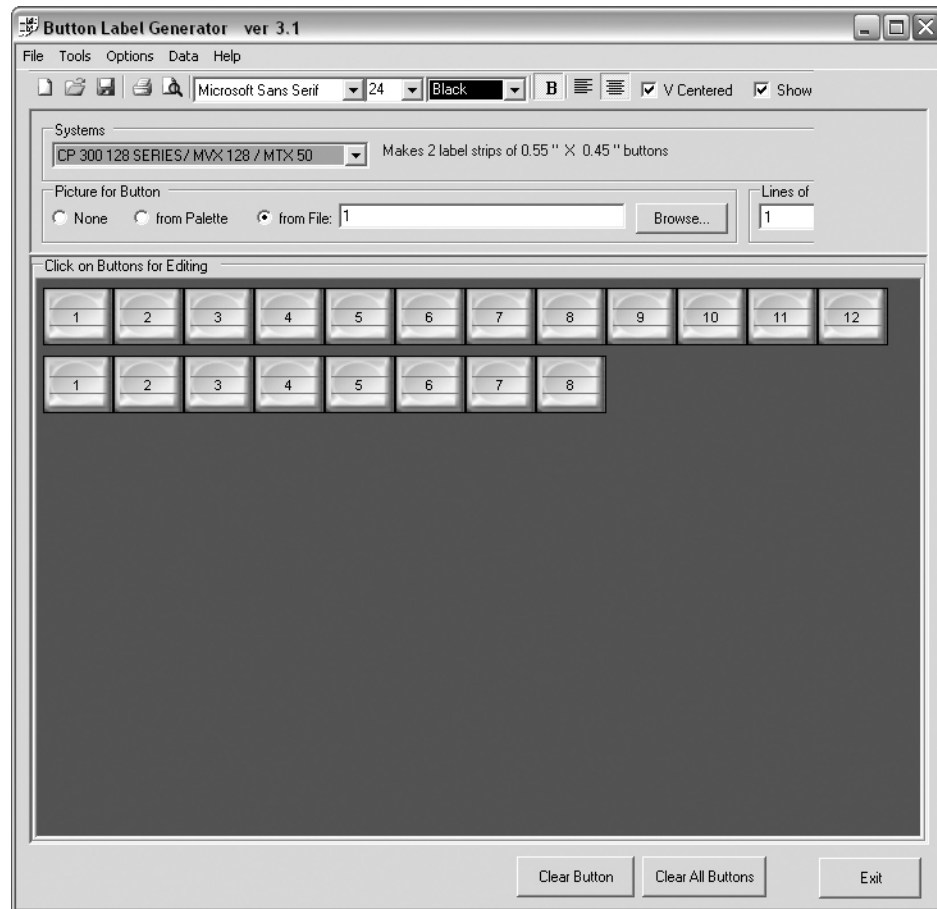

Figure 5-14 — Extron's Button-Label Generator window
1. To run the Button-Label Generator program, click **Start > Programs > Extron Electronics > Button Label Generator > Button Label Generator**. The Button-Label Generator window appears (figure 5-14).